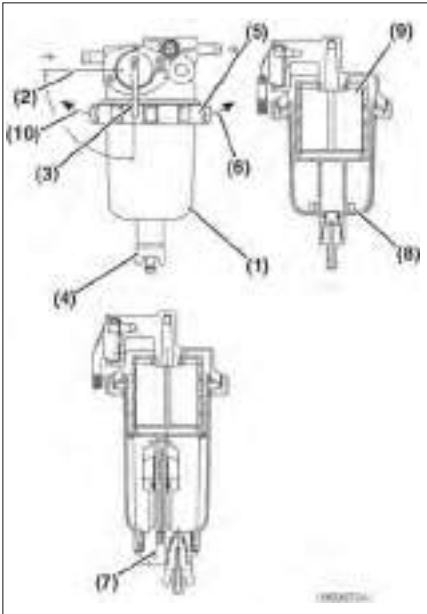

Figure5-16
1. Position an approved container under the cup (**Figure5-16, (1)**) of the fuel filter/water separator to collect the contaminants.
2. Close (**Figure5-16, (2)**) the fuel cock (**Figure5-16, (3)**).
3. Loosen the drain cock (**Figure5-16, (4)**) and drain the contaminants. See Drain Fuel Filter/Water Separator.
4. Turn the retaining ring (**Figure5-16, (5)**) to the left (**Figure5-16, (10)**) and remove the cup (**Figure5-16, (6)**). If equipped, disconnect the sensor wire (**Figure5-16, (7)**) from the cup before removing the cup.
6. Remove the float ring (**Figure5-16, (8)**) from the cup. Pour the contaminants into the container and dispose of it properly.
7. Clean the element (**Figure5-16, (9)**) and inside cup. Replace the element if it is damaged.
11. Install the cup to the bracket by tightening the retaining ring to the right (**Figure5-16, (6)**) to a torque of 11-15 ft•lb (15-20 N•m; 1.5-2.0kgf•m).
13. Open the fuel cock (**Figure5-16, (3)**).